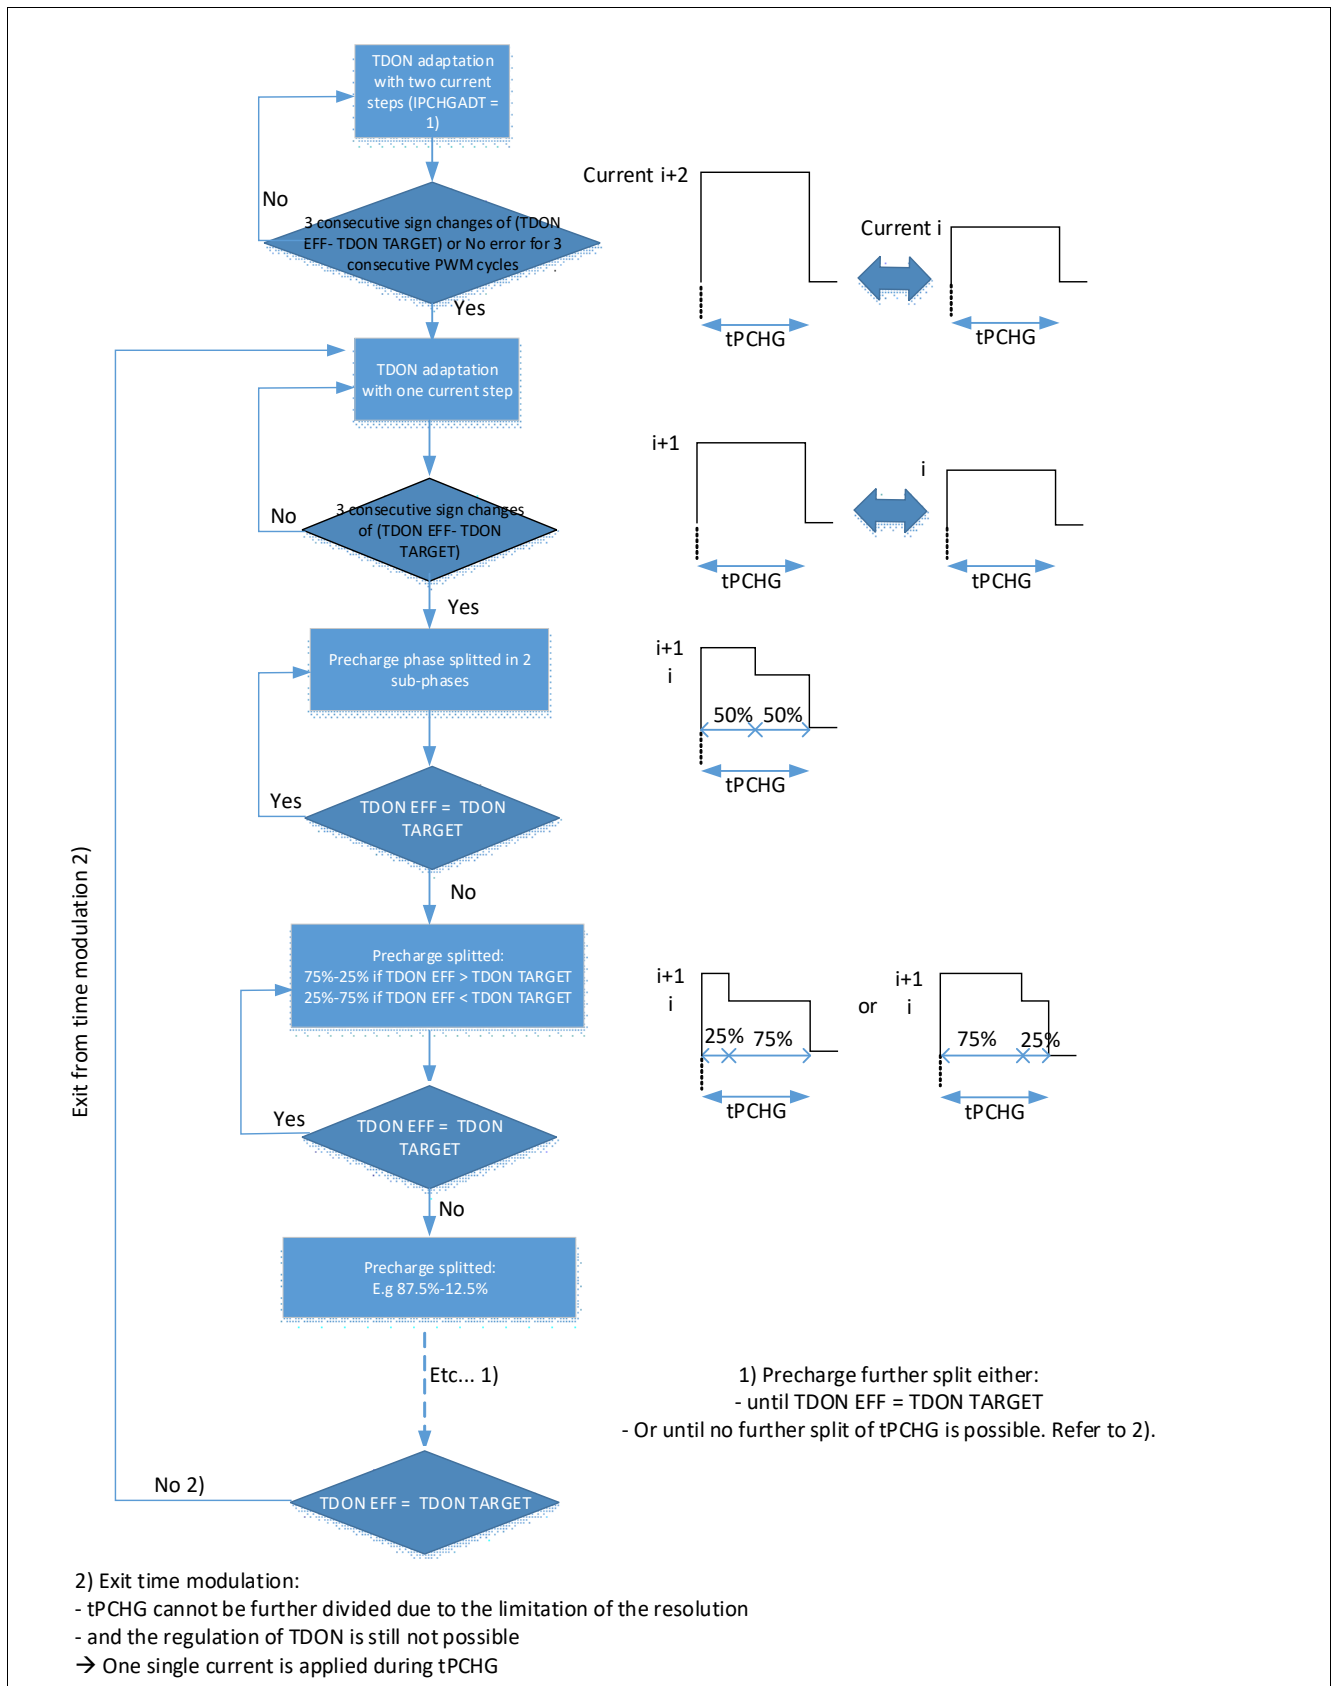

Figure 72 Principle of the time modulation of the precharge phase, DEEP\_ADAP = 1, AGC = 10B or 11B
**Figure 72** describes the principle of the time modulation applied to the precharge phase. The same principle is also applied for the regulation of the pre-discharge phase.